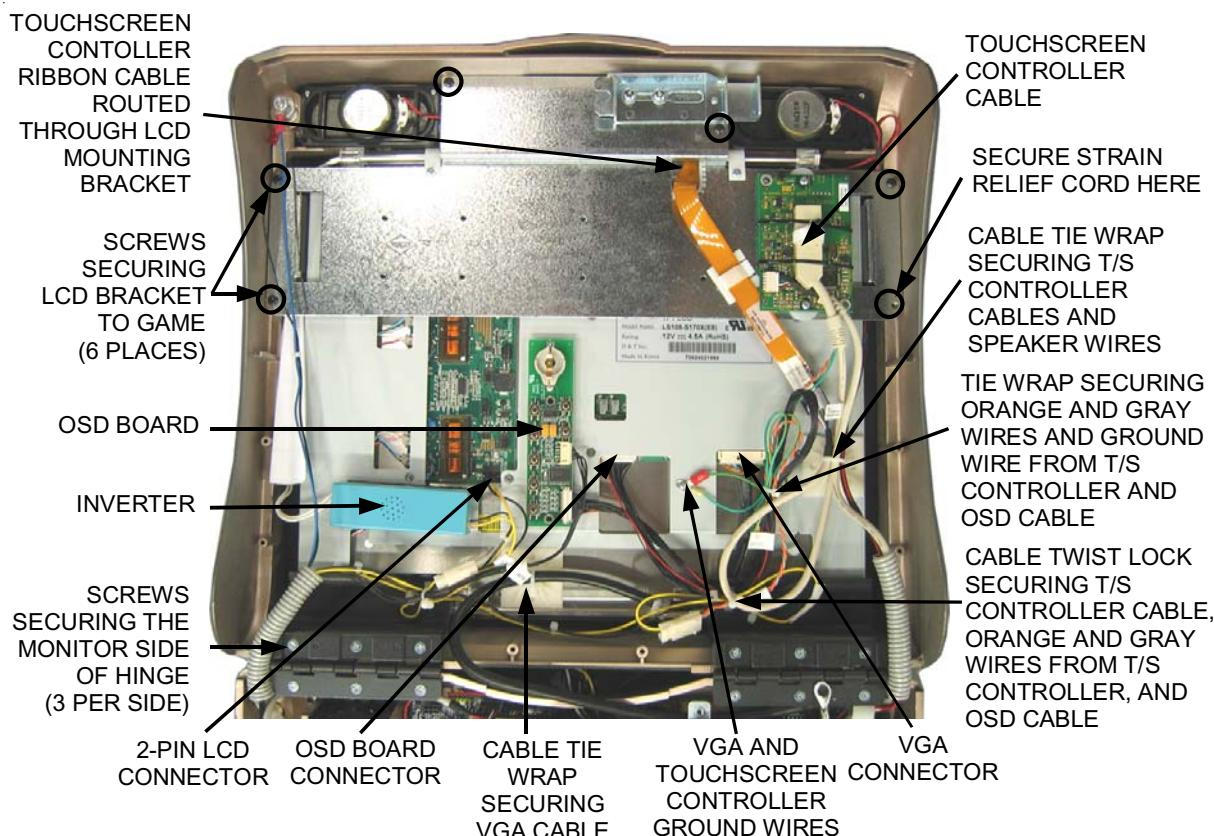

FIGURE 4 – FORESEESON MONITOR IN 17" ION COUNTERTOP GAME
3. *Very carefully* cut the tie wraps securing the touchscreen controller cable to the touchscreen controller. Then, disconnect the cable from the touchscreen controller. See Figure 4.
5. Cut the tie wrap securing the touchscreen controller cables and speaker wires on the back of the monitor (see Figure 4).
6. Cut the tie wrap securing the orange and gray wires and ground wire from the touchscreen controller and the OSD cable. See Figure 4.
7. Remove the touchscreen controller cable, the orange and gray wires (from the touchscreen controller) and the OSD board cable from the cable twist lock. See Figure 4.
9. Disconnect the 2-pin LCD connector, the OSD connector and the VGA connector from the back of the monitor. See Figure 4.
10. Remove the screw and washer securing the VGA and touchscreen controller ground wires to the back of the monitor. See Figure 4.
11. Remove the OSD board and inverter from the Velcro attached to the back side of the monitor and set them aside. See Figure 4.
12. Place something in front of the game to brace the bezel once the strain relief cord is undone, then remove the screw and washer securing the strain relief cord. See Figure 4.
13. Remove the remaining 5 screws fastening the LCD mounting bracket to the game. See Figure 4.
21. Route the touchscreen controller cable through the hole in the LCD mounting bracket (Figure 4).
22. Fasten the strain relief cord under the LCD mounting bracket screw designated in Figure 4. Replace the remaining 5 screws securing the mounting bracket to the bezel. See Figure 4.
23. Tighten the 3 screws per hinge that were loosened during removal of your old monitor. See Figure 4. Make sure the spacers beneath the hinges are aligned correctly as you tighten the screws.
25. Install the 2 existing nylon spacers on the standoffs where the touchscreen controller will be mounted (see Figure 4). If your touchscreen controller did not have nylon spacers, install the 2 provided spacers. Then, secure the touchscreen controller to the standoffs on the LCD mounting bracket using the existing screws.
26. Secure the ribbon cable from the touchscreen controller in the cable clamp on the LCD mounting bracket. See Figure 4.
28. Connect the 2-pin LCD connector to the back of the monitor. See Figure 4.
29. Connect the OSD connector to the monitor. See Figure 4.
30. Connect the VGA monitor connector to the monitor. See Figure 4.